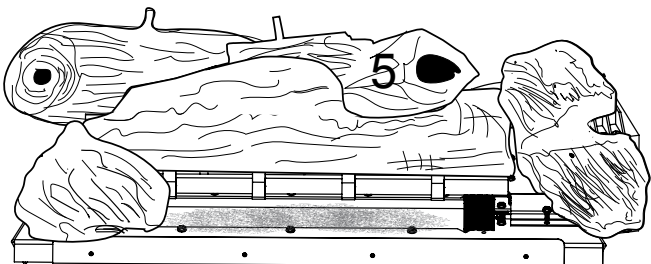

Figure 5.15 - Log #5 Placement
6. Hold log #5 with wide end away from you. Place log #5 by positioning it over the notch on log #1 and by sliding the wide end toward the back. When in place, the left rear of log #5 should come in contact with log #4 and the left side of the slot on log #1. It should match with log #4. See Figure 5.15.